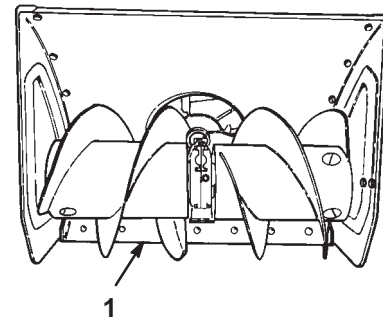

Figure 9
2. Move the snowthrower to a flat surface and ensure that the scraper (Fig. 9) is parallel to the ground. If it is not, adjust the scraper; refer to Adjusting the Skids and the Scraper on page 21.